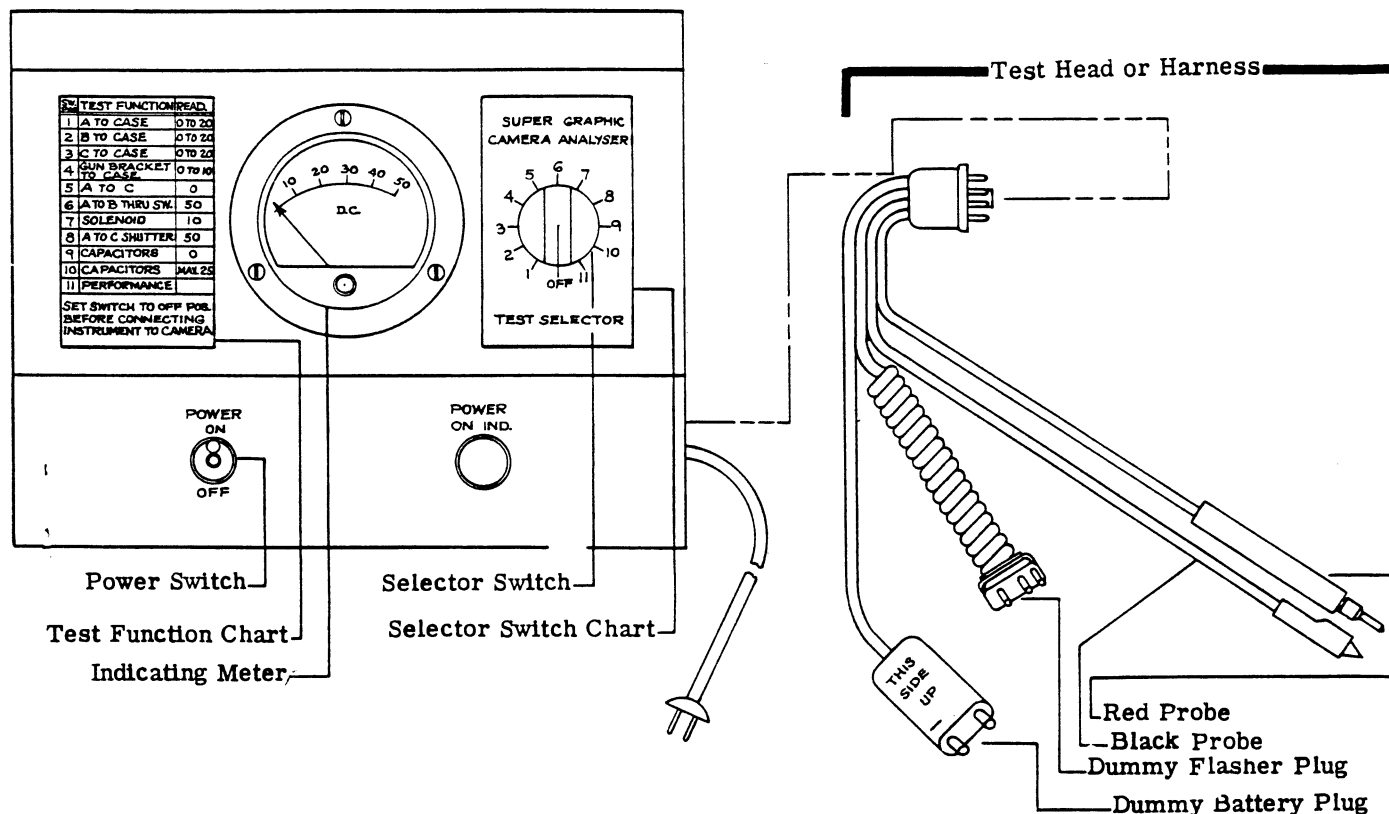

Figure 3. SUPER GRAPHIC ANALYZER
1. Super Graphic Analyzer (Figure 3)